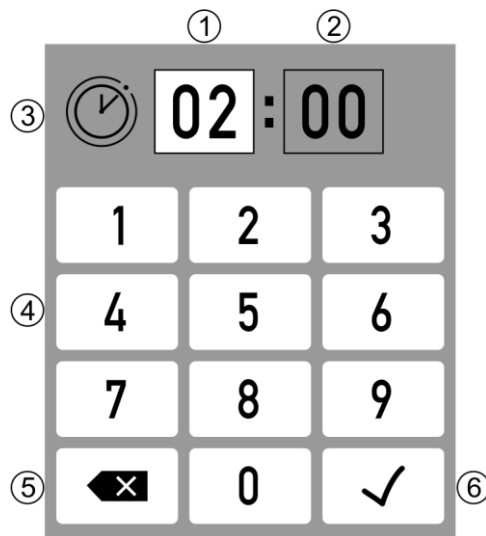

Fig. 5: Menu for time settings
The time settings menu is used for various values and may appear at multiple points of the menu navigation. The current submenu is shown at position 5 (refer to fig. 5).
1. Touch one of the time fields 1/2 (refer to fig. 5) to activate.
2. Enter the preferred time in the number field (4).
3. The value is saved once you press the enter key (6).